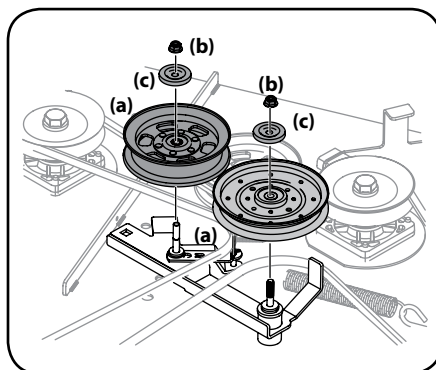

Figure 4-18
3. Remove the two idler pulleys (a) by removing the flange lock nuts (b) and pulley caps (c) that secure them to the deck and the idler arm. See Figure 4-18. Do not lose any of the hardware when removing the flange lock nuts (b).
6. Place the belt around the idler pulleys removed in step 3 with the "V" side facing in. Once in place, reinstall all the hardware and tighten the flange lock nut to secure the assembly. See Figure 4-18.